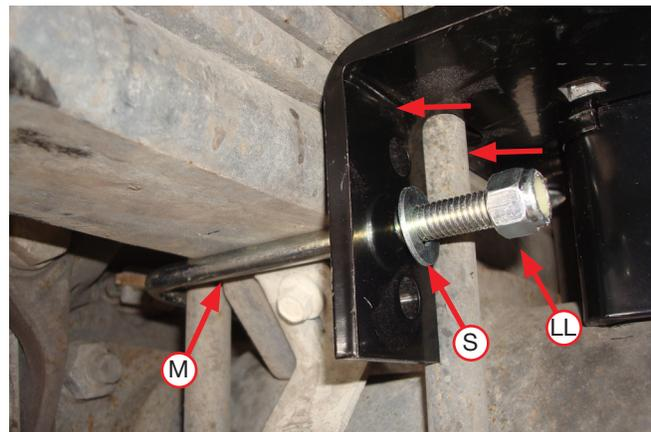

Fig. 36
2. Insert the U-bolts into the middle holes on the lower bracket as you install the assemblies onto the vehicle (Fig. 36). Cap with 3/8" flat washer (S) and 3/8" nylon lock nuts (LL). Snug bolts evenly, just enough to hold the lower bracket main plate flush against the stock U-bolts.